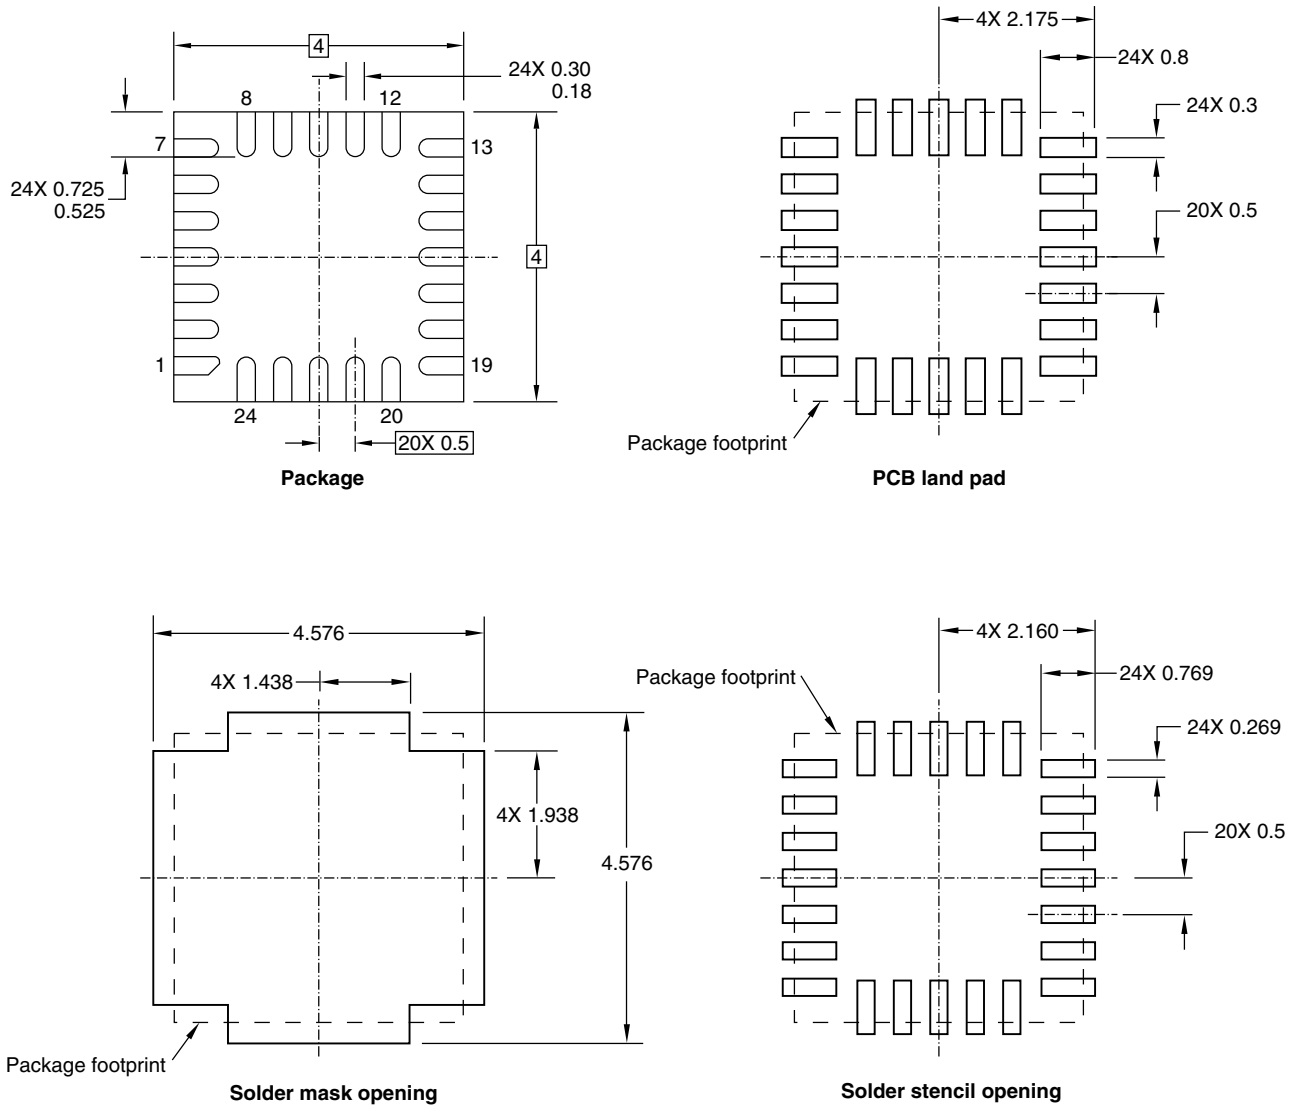

Figure 18. Footprint
The following recommendations are a guide to an effective PCB layout. See Figure 18 for footprint dimensions.
- The PCB land should be designed with Non-Solder Mask Defined (NSMD) as shown in Figure 18.